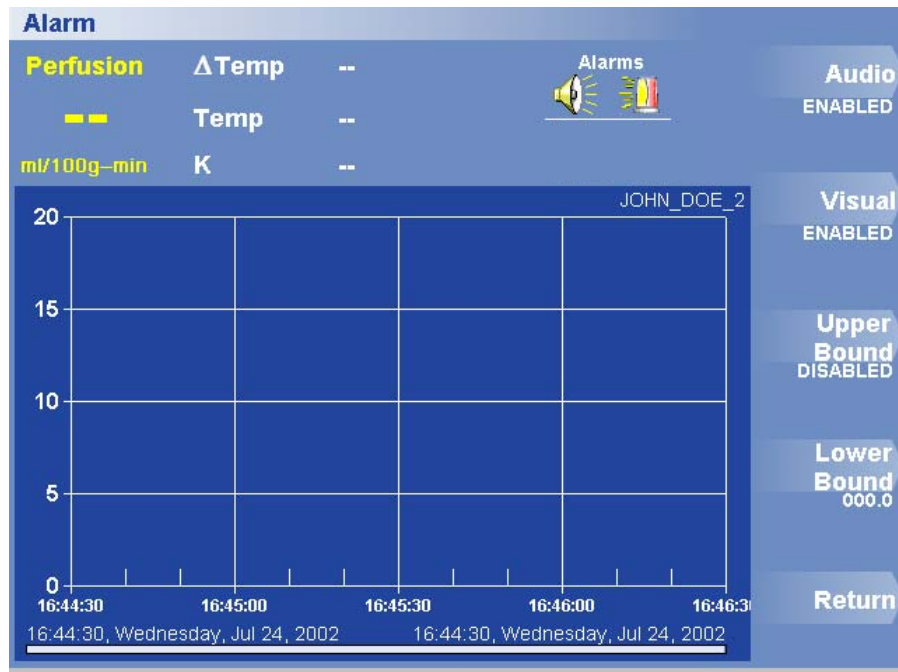

Figure 24. Audio and Visual Alarms Menu
2. Press Set Alarm. The Alarm menu appears (Figure 24).
1. Press Options > Set Alarm. The Alarm menu appears (Figure 24). The current value for the upper bound of the alarm appears below the Upper Bound label.